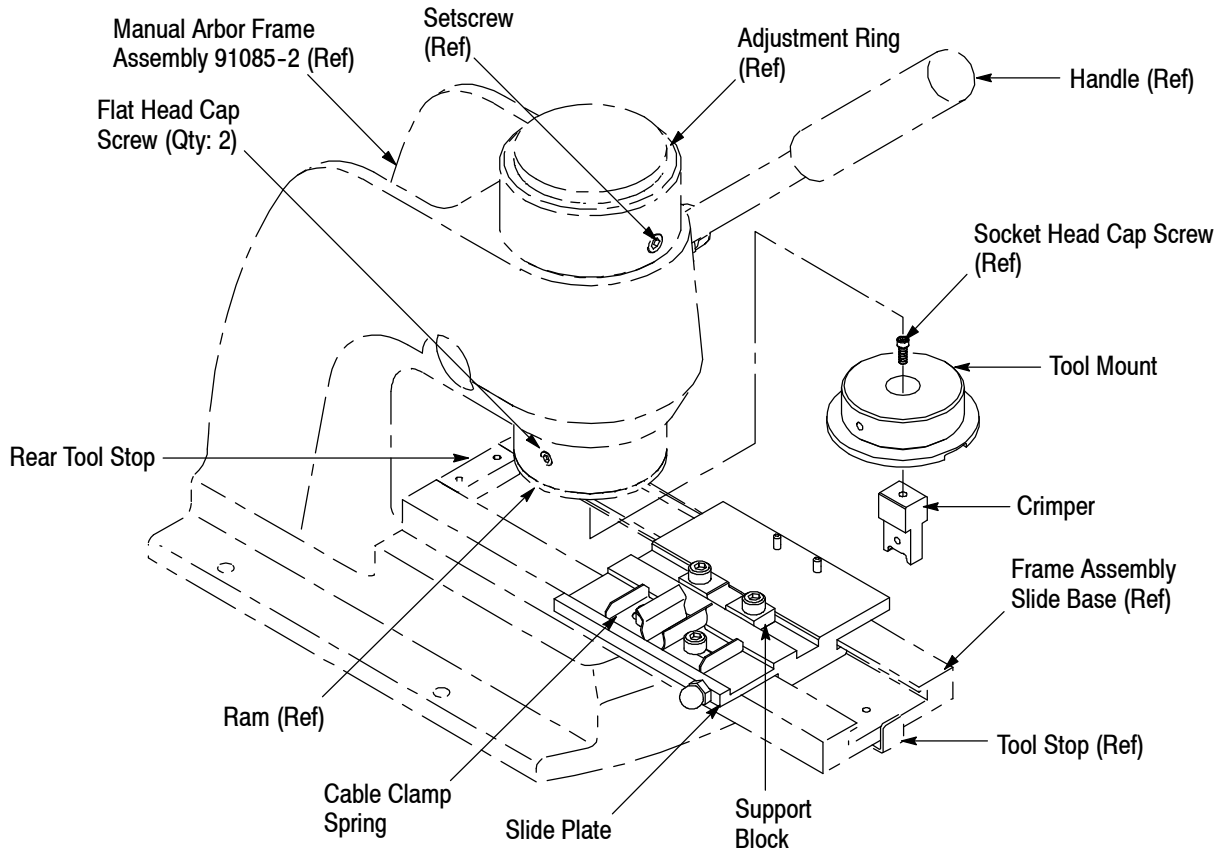

Figure 1
0.8mm CHAMP Crimper Assemblies 122842-1, 122842-2, and 122842-3 are designed for use in Manual Arbor Frame Assembly 91085-2 (shown in Figure 1) and are used to crimp metal backshell assemblies onto 0.8mm CHAMP connectors. This instruction sheet provides procedures for crimper assembly installation, adjustments, crimping, and maintenance and inspection. Refer to instruction sheet 408-7777 for details concerning the operation and maintenance of the arbor frame assembly.
2. DESCRIPTION (See Figure 1)
To install the crimper assembly, refer to Figure 1, and proceed as follows:
2. Slide the lower tooling assembly into the tracks of the frame assembly slide base. The cable clamp spring must be oriented to the left side of the slide base as shown in Figure 1.
3. Position the crimper in the tool mount with the longer offset to the right (as shown in Figure 1). Secure crimper to tool mount with the socket head cap screw.